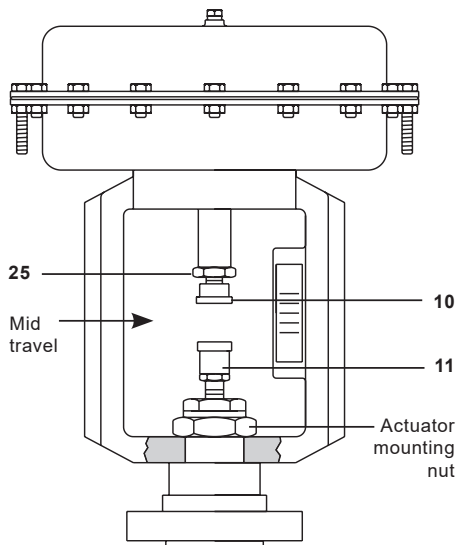

Fig. 9
- Loosen and remove the actuator mounting nut (see Figure 9) and lift the actuator off the valve.